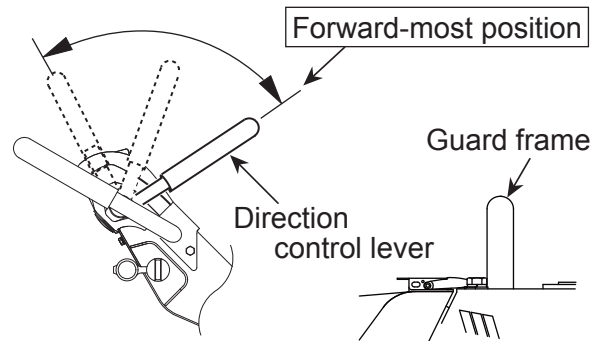

Figure 27. Direction Control Lever (Forward Position)
7. With the direction control lever at the forward-most position, secure the guard frame with a rope to immobilize (Figure 27).